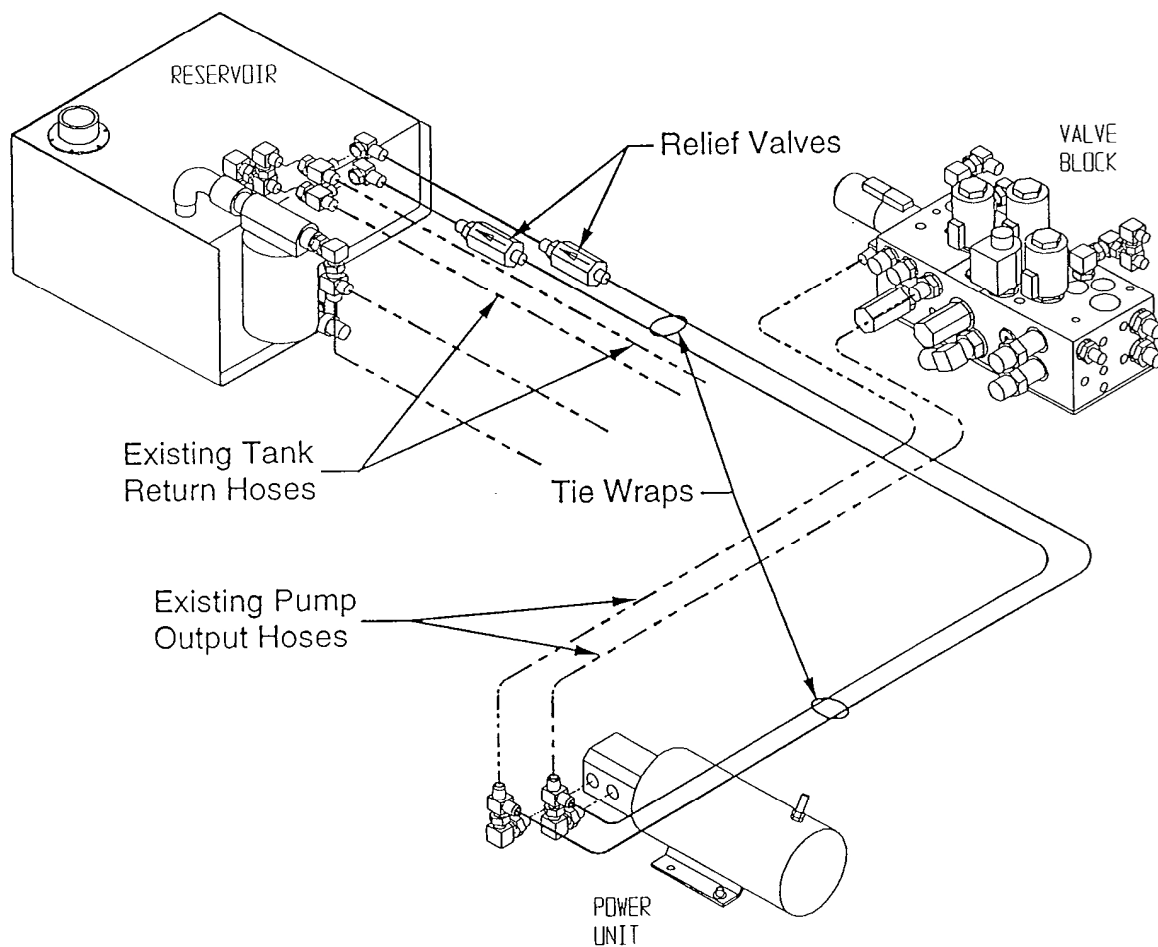

Figure 1
NOTE: Read all instructions before starting. Refer to Figure 1 (page 2) to aid in the installation.
7. Install the Tie Wraps as shown in Figure 1.